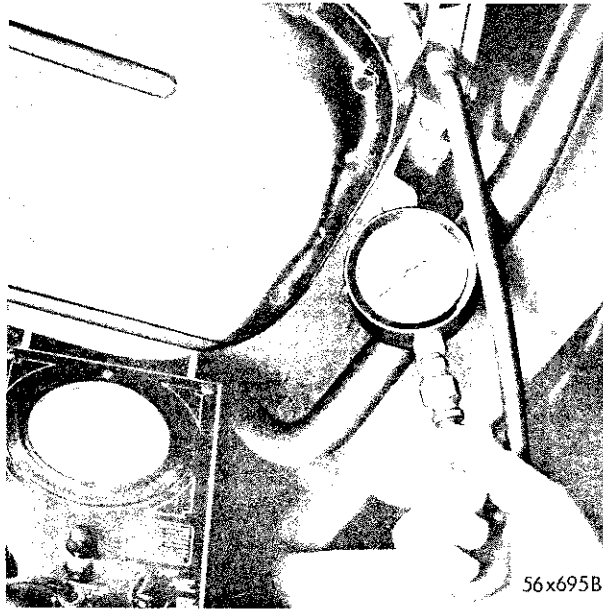

Fig. 18—Checking Governor Pressure
b. Governor Pressure (see Fig. 18)